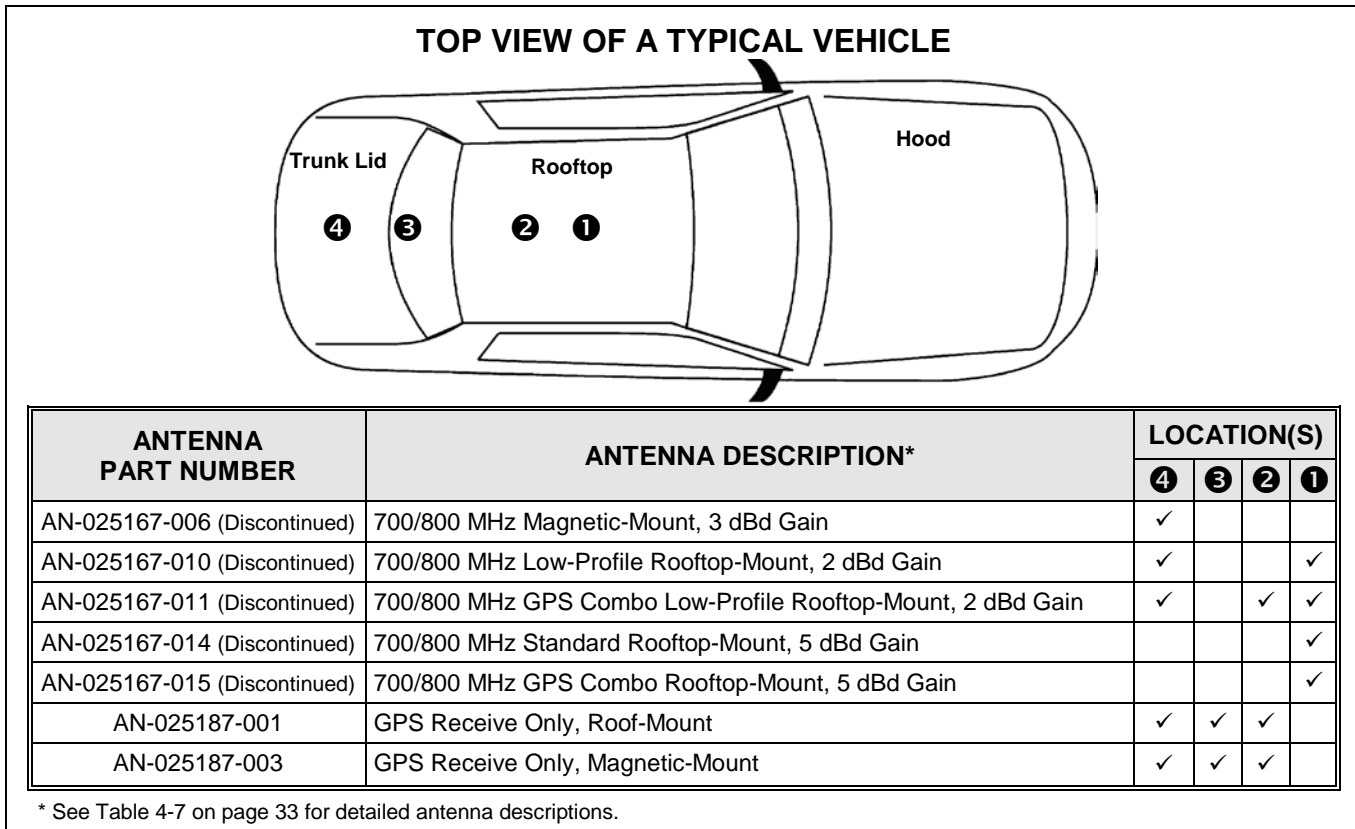

Figure 6-1: Recommended Antenna Mounting Locations with Antenna Part Numbers
At this time, review all information presented in the REGULATORY AND SAFETY INFORMATION section of this manual (see page 7). A transmitting antenna must be installed in accordance with the guidelines presented in both the REGULATORY AND SAFETY INFORMATION section, and in this section. As a guide for determining the best possible mounting location in order to reduce human exposure to radio frequency (RF) electromagnetic energy during transmit mode, use Table 1-1 for a VHF radio, Table 1-3 for a 700 and 800 MHz radio, and Figure 6-1.
Antennas must be mounted in one of four (4) possible locations on the vehicle. Figure 6-1 shows the recommended locations and antenna part numbers. Also, see Table 4-7 for additional information. Always follow the antenna manufacturer's instructions when mounting an antenna.
The center of the vehicle's roof is the best location for a rooftop-mount antenna (location ❶ in Figure 6-1). For optimal performance, the mounting area under the antenna must be a flat with a minimum radius of six (6) inches of metal ground plane. It must be located directly in the center of the roof to minimize human exposure to RF electromagnetic energy. Other obstructions such as a light bar or another antenna may prevent the antenna from being mounted in the direct center of the roof. In this case, the antenna should be mounted a minimum of one foot away from and behind the obstruction but in the middle of the roof with respect to the left and right sides of the vehicle (location ❷ in Figure 6-1).
Certain vehicles do not allow for the antenna to be placed in the center or center-rear of the roof. In this case, the next best location for the antenna is in the direct center of the trunk lid (location ❹ in Figure 6-1). In this case, an elevated-feed-point antenna is recommended. Although this type of antenna does not require a metal ground plane, it must be located directly in the center of the trunk lid to minimize human exposure to RF electromagnetic energy.
If the M7300 mobile radio does not use a GPS combination-type antenna and it is equipped with a GPS receiver, a stand-alone GPS receive antenna must be separately located and mounted. The vehicle's rear deck lid (location ❸ in Figure 6-1) is the recommended mounting location for this case. This locates the GPS antenna inside the vehicle.
Table 4-7 (page 33) and Figure 6-1 (page 44) list the mobile radio antennas available for use with the radio. As presented in the previous section, various mounting locations exist. Optimal performance is achieved via a rooftop antenna mounted in the direct center of the motor vehicle’s roof.
A combination (“combo”) antenna kit includes a GPS antenna built into the base of the mobile antenna. Refer to Table 4-7 (page 33) and/or Figure 6-1 (page 44) for available combo antennas.